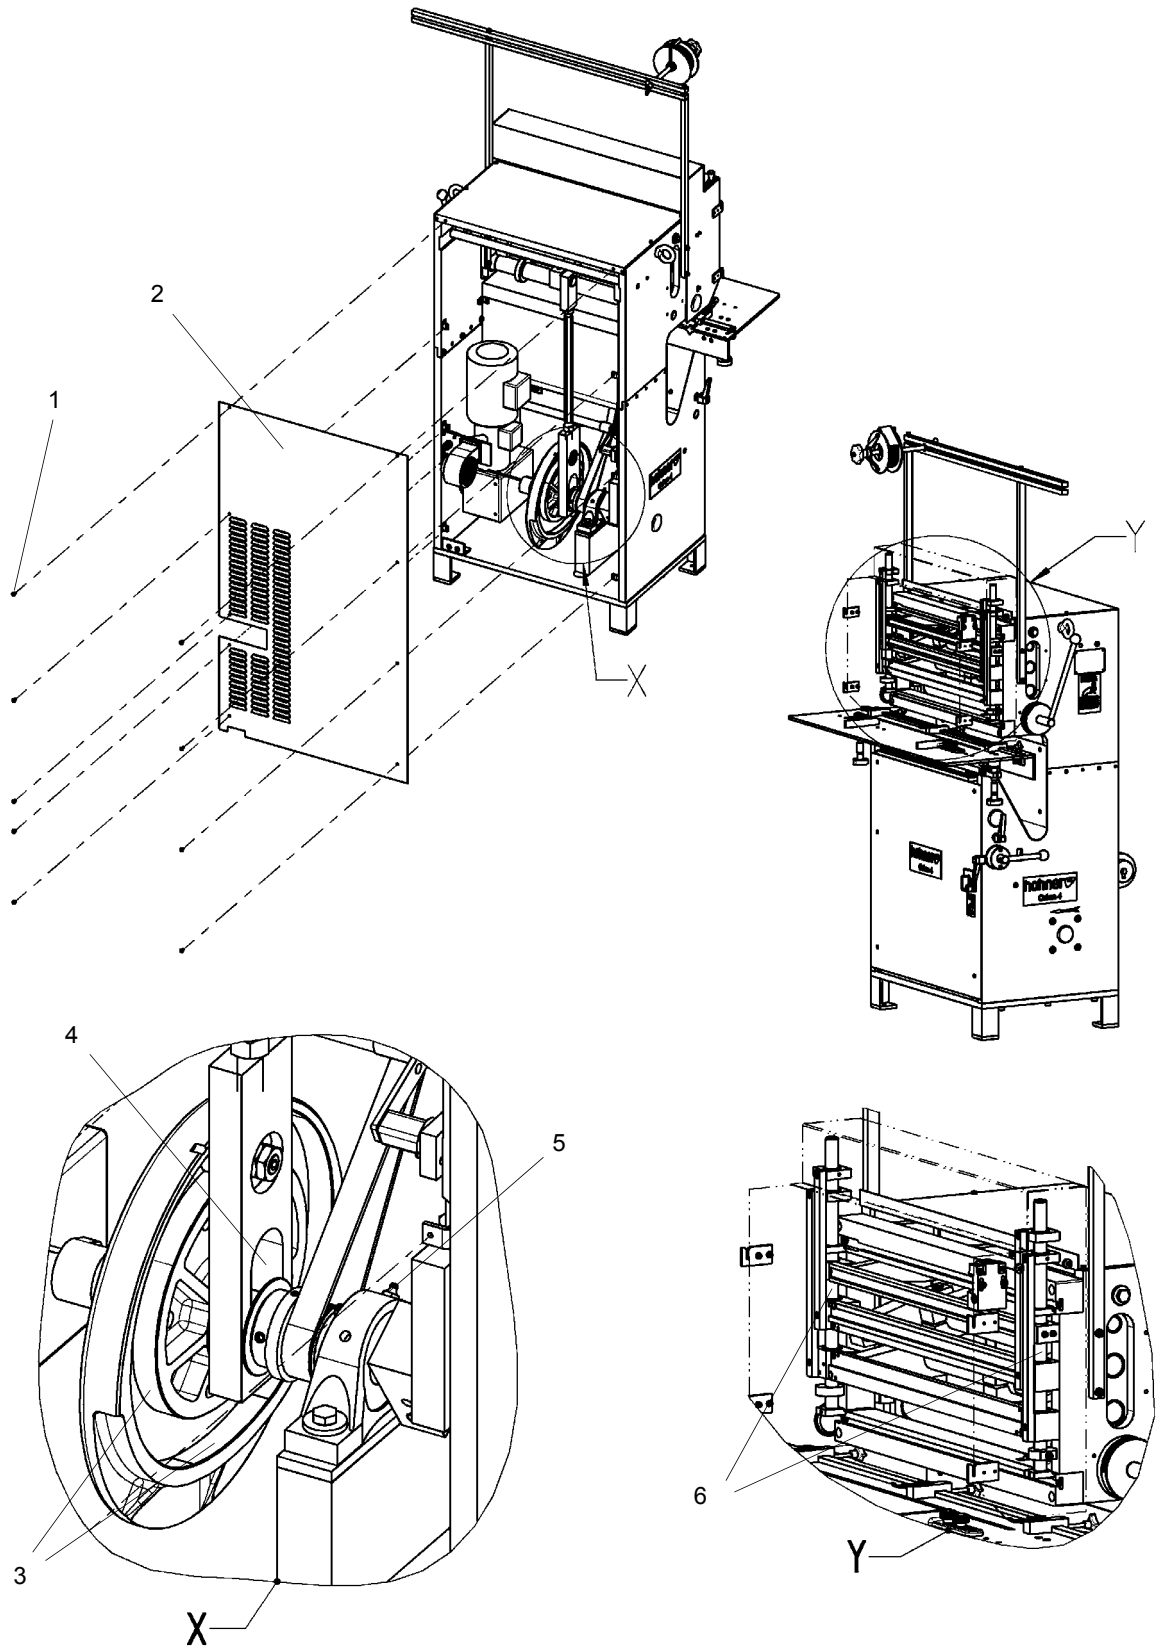

Fig. 3.11
- Fig. 3.11 - please see figure on the next page -